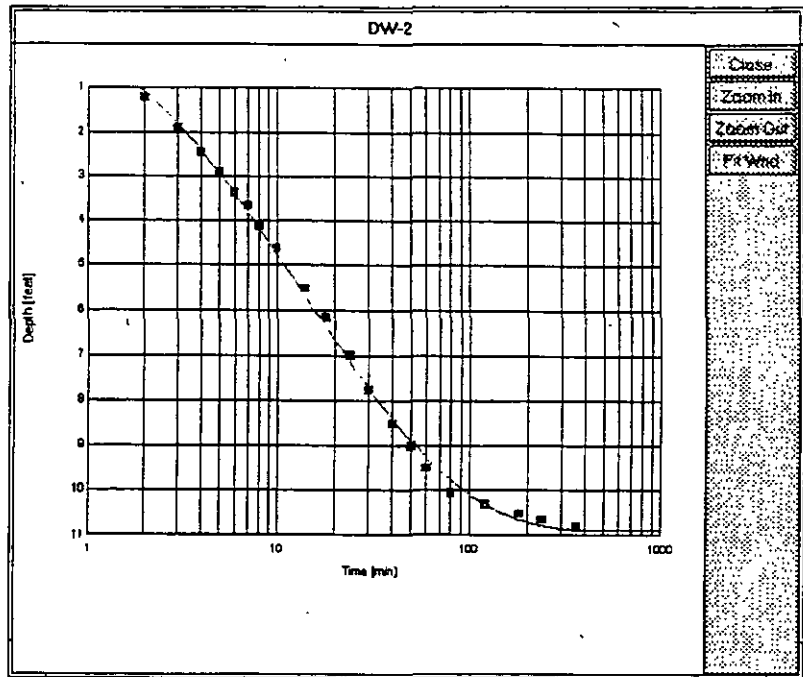

Figure 9-19
20. Look at the fit. Select Display, followed by Log-Lin Diagram. The display is as shown in Figure 9-19. Notice that the fit is much better. You do not need to look at the display. The comparison of Error estimates is sufficient to tell you which method fits better.